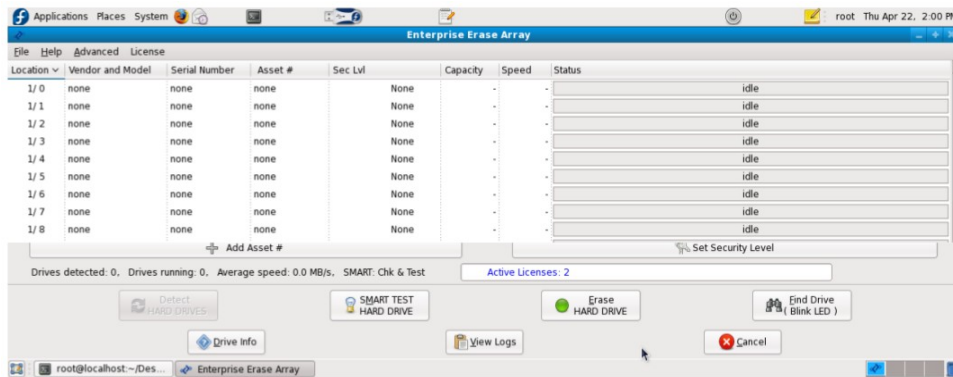

Figure 3.2 – E2400 Main User Interface Screen (GUI)
3.3 After the software launches, you will see the main user interface (GUI). Figure 3.2 shows this interface.